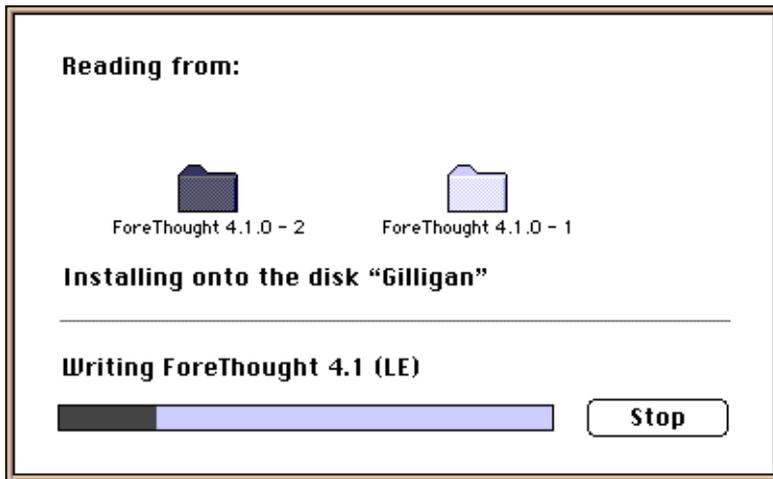

Figure 3.8 - Installation In Progress Screen
8. Click **OK** to return to the Install FORE Software window. If you click **Continue**, an In Progress screen, shown in Figure 3.8 appears.